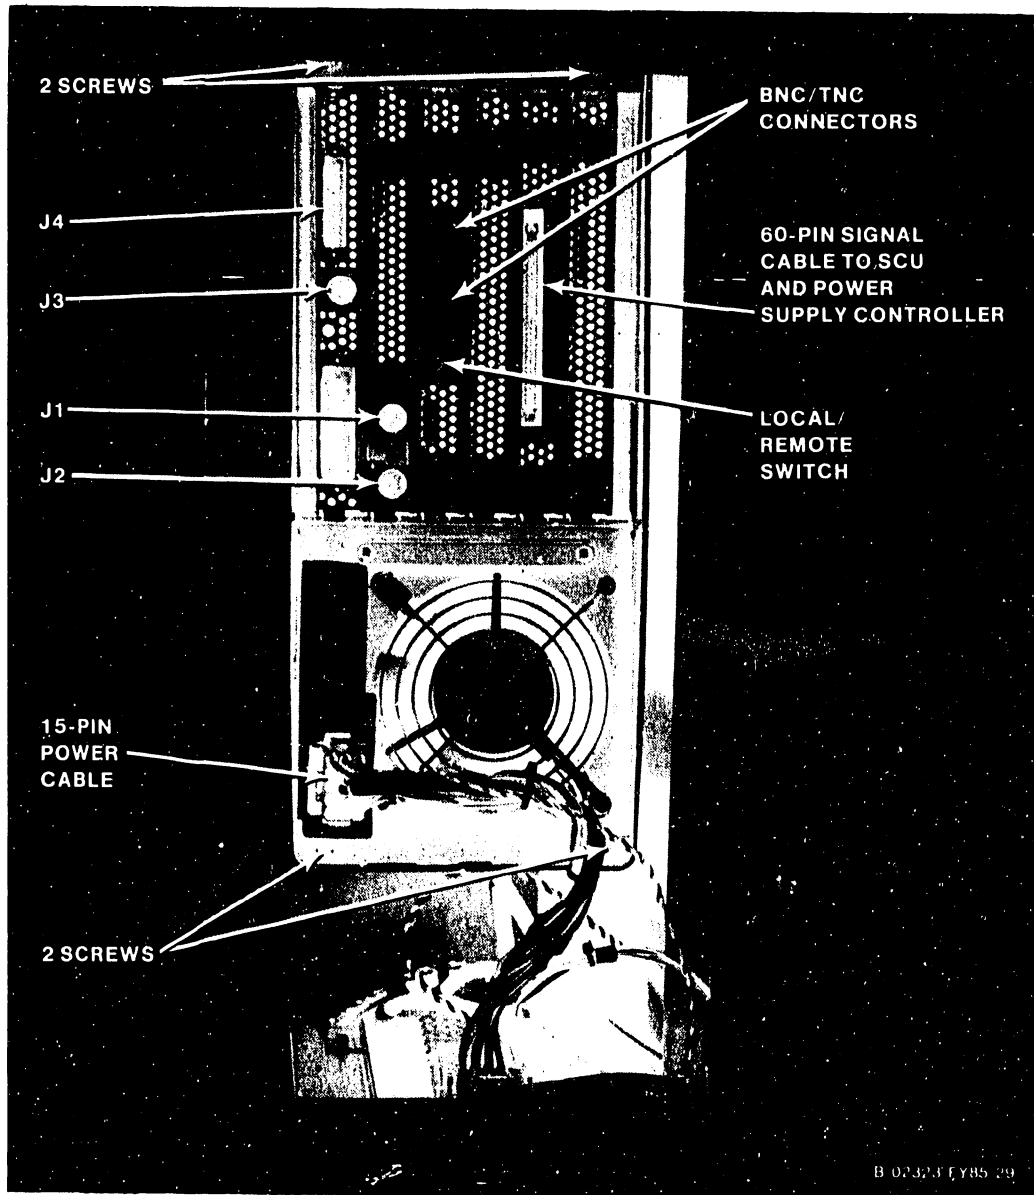

Figure 5-49. SCU Professional Computer Removal and Replacement
The SCU (PC) is mounted internally at the right side of the mainframe, behind the Control Panel. Remove the SCU as follows: (See figures 5-49.)